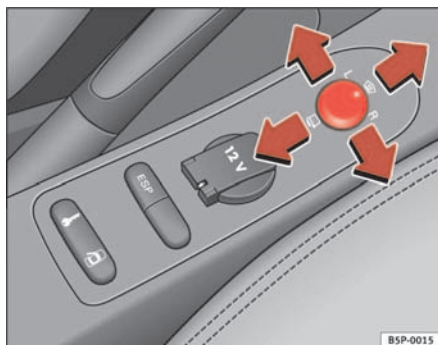

Fig. 91 Exterior mirror control
1. Turn knob ⇒ **fig. 91** to position **L (left exterior mirror)**.
- Turn the knob forwards to the central position ⇒ **page 123, fig. 91 1** so that the heated rear view mirrors heat up and the heated windscreen* in the wiper blade rest area is operational. ⇒ **page 119**
- Turn the control ⇒ **page 123, fig. 91** to position **!** to fold in the exterior mirrors. You should always fold in the exterior mirrors if you are driving through an automatic car wash. This will help prevent damage.